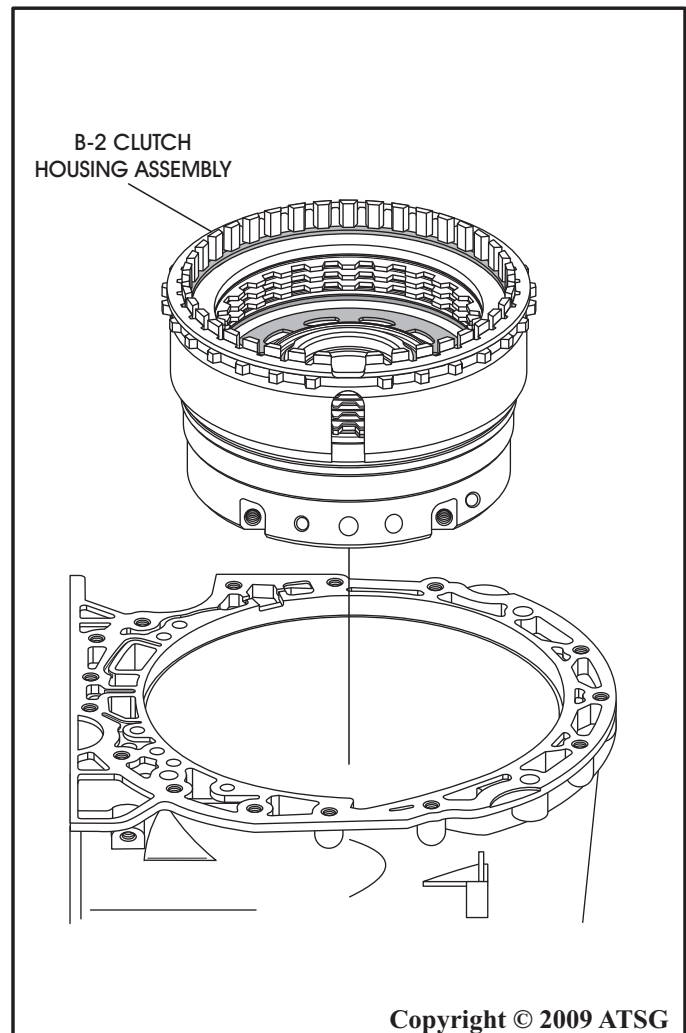

Figure 54
33. Remove the B-2 clutch housing assembly, as shown in Figure 54, and set aside for the component rebuild section.